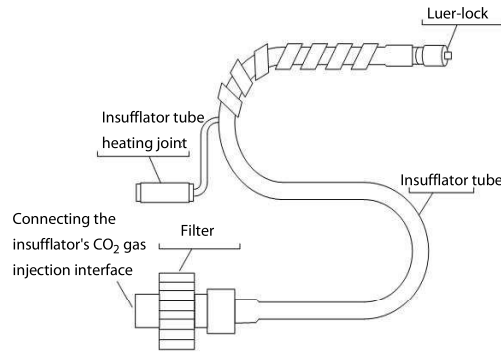

Figure 4-9 Installed heating insufflator pipe fitting (using filter)
2. Please install the filter between the insufflator tube and the insufflator's CO₂ gas injection interface. As shown in Figure 4-9.